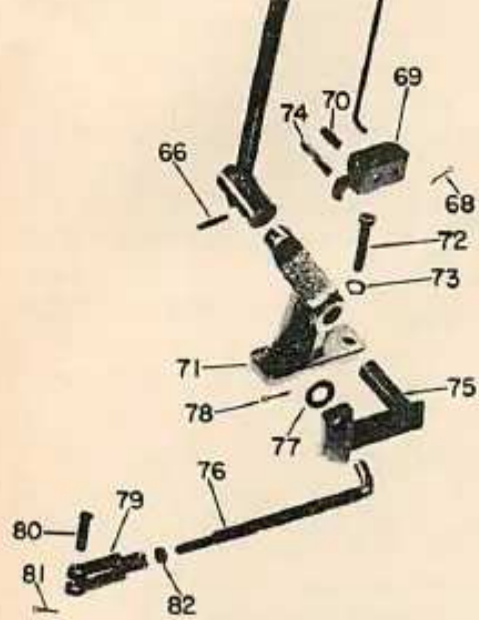

Fig. O137 — Pto clutch lever assembly and linkage for dual speed power take-off. Latch (69) locks lever in disengaged position.
225. CONTROL LEVER ADJUSTMENT. Refer to Fig. O137. The yoke (79) should be adjusted on rod (76) so that clutch control lever is locked firmly in disengaged position by latch
Fig. O138 — Exploded view of dual speed pto unit that is available on Series 1650 models. A wet type multiple disc clutch (51) is used; over center linkage is actuated by hand lever (Fig. O137 or O137A). Refer to Fig. 0139 for exploded view of clutch unit (51).